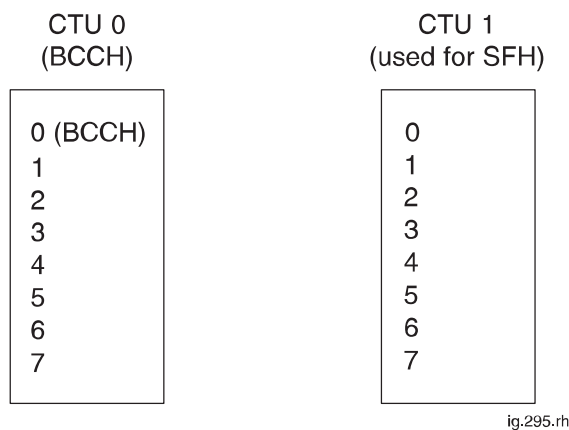

Figure 5-10 Minimum SFH requirement
- A minimum of two CTUs are required per cell due to BCCH requirements. Timeslot 0 of CTU 0 is used for the BCCH carrier as shown in Figure 5-10. CTU 0 cannot use SFH. Only CTU 1 and additional CTUs can use SFH.
Figure 5-10 shows the minimum SFH requirement.